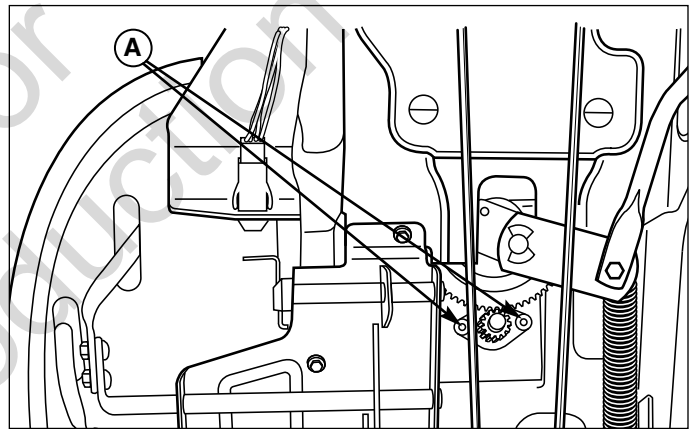

Figure 42. Steering Gear Adjustment
1. See Figure 42. Locate the steering gear assembly on the underside of the tractor. Loosen the two nuts and adjust the bracket so the gear teeth are closely meshed.
2. Tighten nuts (A, Figure 42) to 36-44 ft-lbs (49-59 Nm) after adjustment.